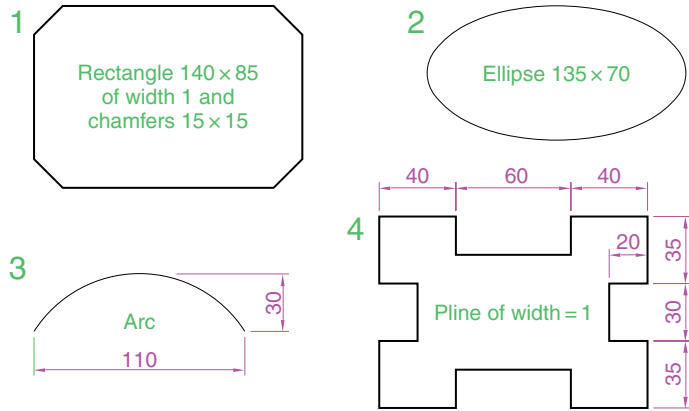
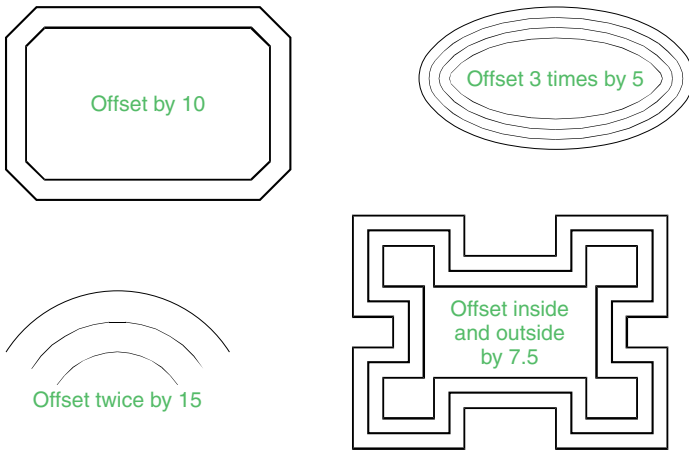

Fig. 5.13 Examples – **Offset** – outlines
Fig. 5.14 Examples – **Offset**
Examples – Offset (Fig. 5.14)
1. Construct the four outlines shown in Fig. 5.13.
3. Repeat the same for drawings **2**, **3** and **4** in Fig. 5.13 as shown in Fig. 5.14.